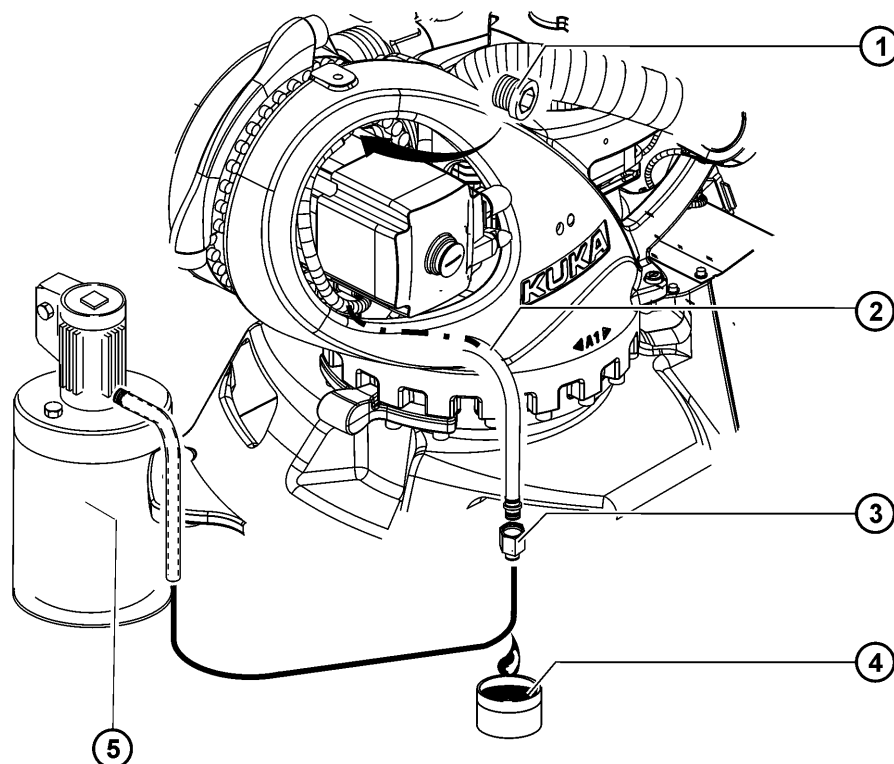

Fig. 9-4: Oil change, A2
1. Pull the oil drain hose (>>> Fig. 9-4) out of the rotating column.